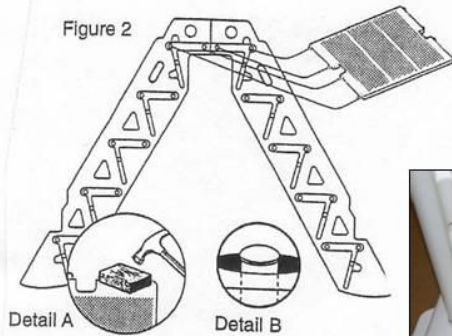

Figure 2
2. Fit top platform into the slots of stringers aligning knobs on platform with holes in stringer (Figure 2). Make certain anti-skid surface is facing upward. Press/tap platform to lock in place with body weight or a small piece of wood and hammer as shown in Detail a. Make certain not to damage locking knobs & make certain knobs protrude and lock through stringers (see Detail B)